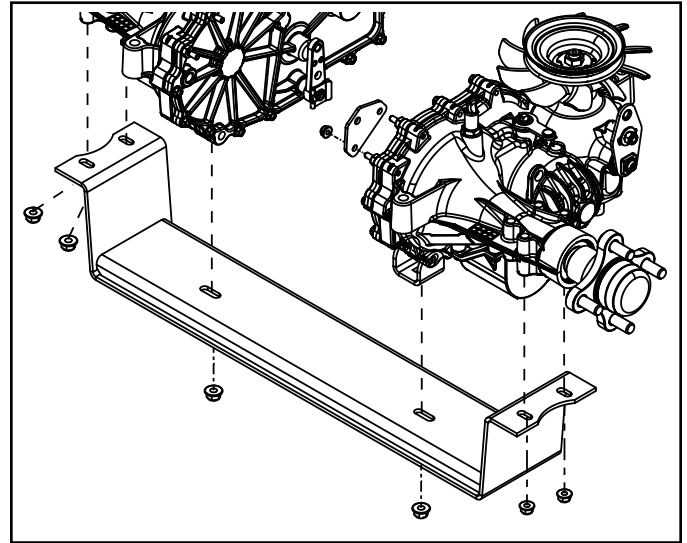

Fig. 065
Wide Frame – Remove the (6) mounting fasteners (Fig. 065).